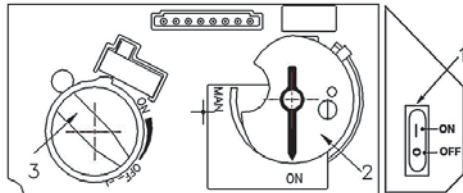
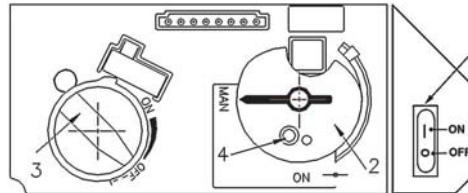

Fig 1
Fig 2
2. SET ON/OFF SWITCH (1) TO "OFF" POSITION.
- Wait five (5) minutes to clear out any gas, then smell for gas, including near the floor. If you smell gas, STOP! Follow "B" in the safety information above on this label. If you don't smell gas, go to the next step.
3. AUTOMATIC IGNITION (fig. 1): Locate the pilot (fig. 3.) inside of firebox at Left Hand side.
- ON/OFF switch (1) in ON position, MAN-knob (2) in ON position; set Flame Adjustment knob (3) to lowest setting (⌚);
- When the pilot is lit, the Flame Adjustment knob (3) will automatically rotate to the highest setting.
4. MANUAL IGNITION (fig. 2): With the window off, locate the pilot (fig. 3)